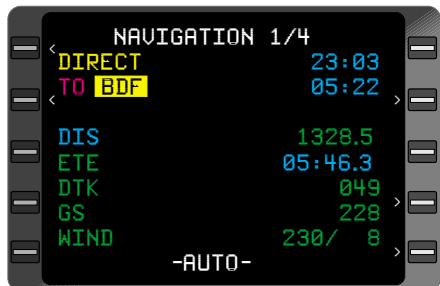

Figure 3-133
4. Line Select Key - DEPRESS to position cursor over **TO** Waypoint on **NAVIGATION** Page 1. (Figure 3-133)